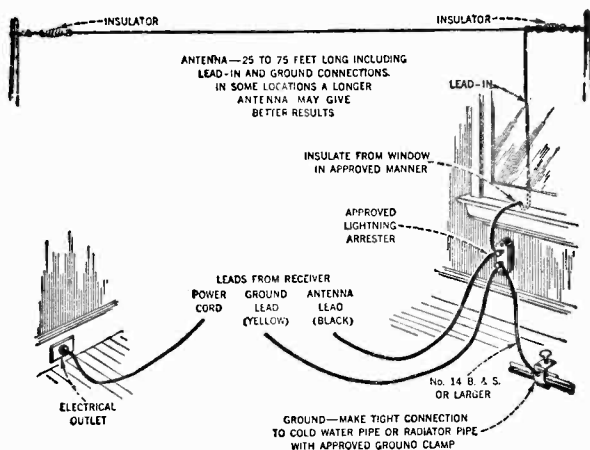

Figure 1
**External Connections**—Figure 1 shows the external connections and recommended antenna system. It is essential that a good ground connection be provided. Make connections to the antenna and ground as illustrated. Then connect the power cord to an